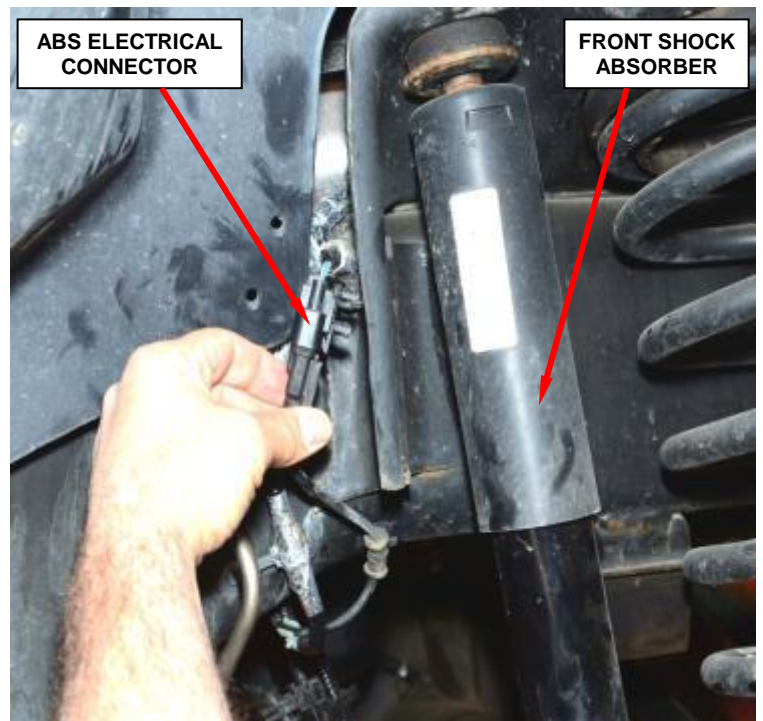

Figure 31 – ABS Wheel Speed Sensor Electrical Connector
8. Disconnect the Anti-Lock Brake System (ABS) wheel speed sensor electrical connector and unclip the ABS wire from brake hose (Figure 31).
16. Route the ABS speed sensor wire along the brake tube and then connect the Anti-Lock Brake System (ABS) wheel speed sensor electrical connector (Figure 31).